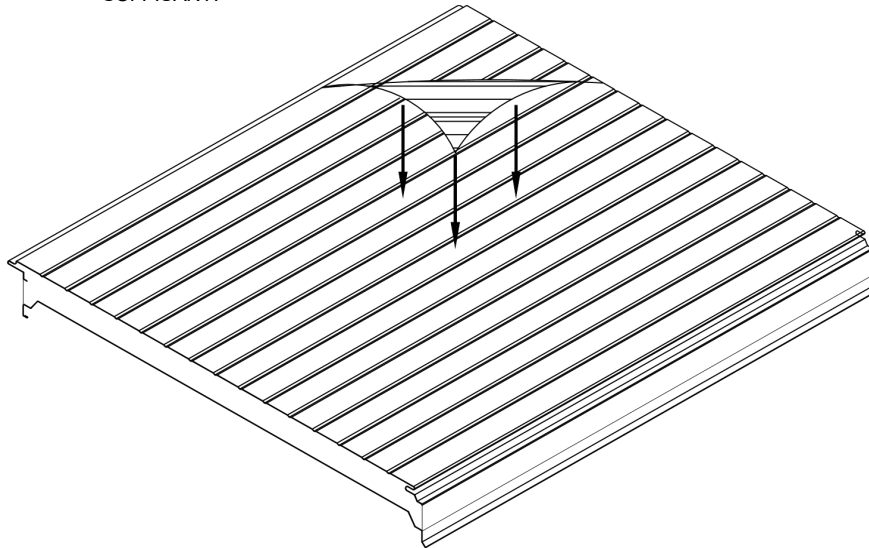

FIGURE 4
8.4 LA MEILLEURE FAÇON D'ENLEVER LA PELLICULE PLASTIQUE DE PROTECTION EST DE DÉCOLLER LA PELLICULE À UN ANGLE DE 45° EN COMMENÇANT PAR UN COIN DU PANNEAU (CONSULTEZ LA FIGURE 4 CI-DESSOUS).